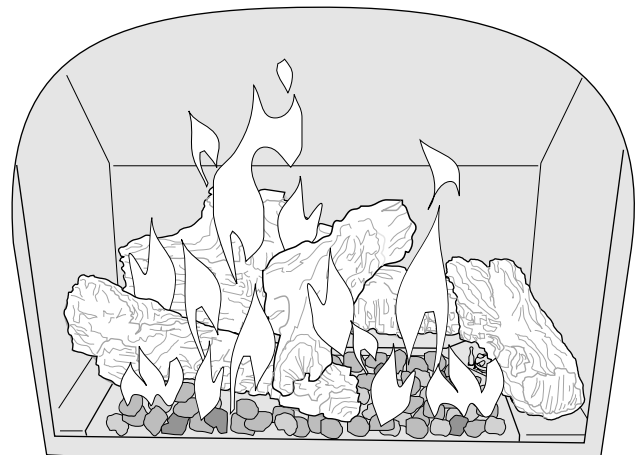

Figure 38. Flame appearance on the "high" setting after approximately 15 to 20 minutes burning.
3. **BURNER ADJUSTMENT:** This stove is equipped with a variable gas control valve that allows easy adjustment of the flame height and heat output. To adjust the flame intensity, rotate the HI/LOW knob. Flame height will adjust approximately 50% between the LOW and HIGH settings. See fig. 38.